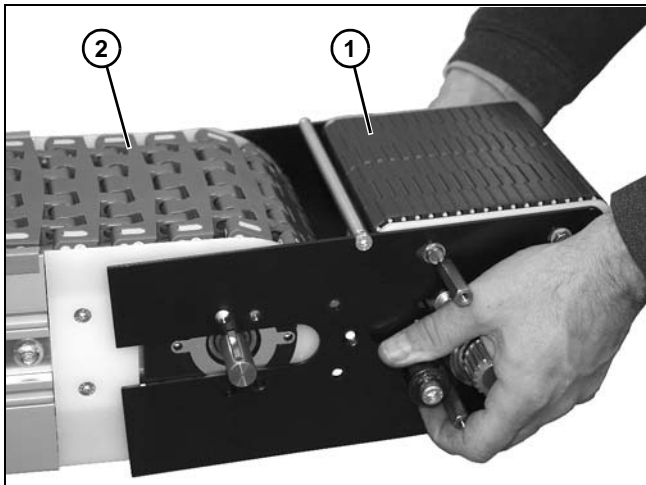

Figure 117
9. Remove power transfer tail (**Figure 117, item 1**) from frame (**Figure 117, item 2**).